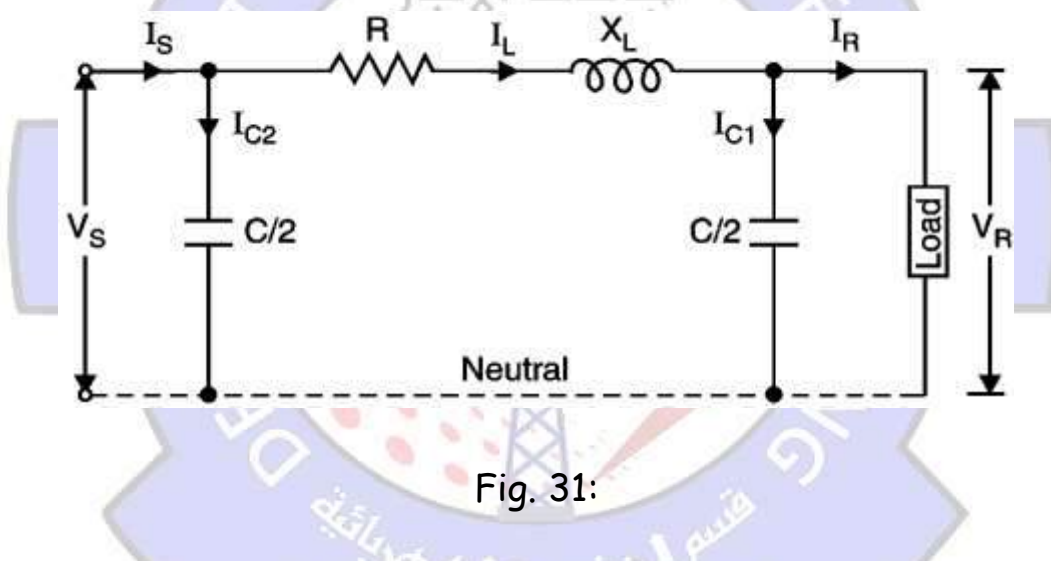

Fig. 31:
- In this method, capacitance of each conductor (i.e., line to neutral) is divided into two halves; one half being lumped at the sending end and the other half at the receiving end as shown in figure 31.